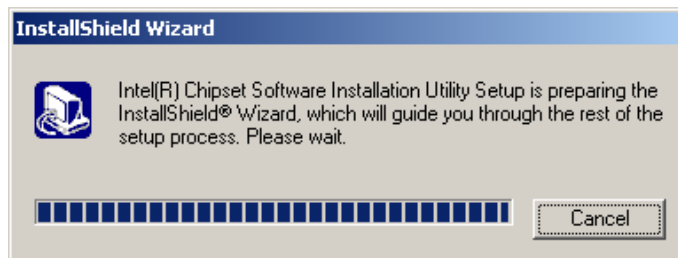

Figure 6-1: InstallShield Wizard Preparation Screen
Step 2: The “InstallShield Wizard Preparation Screen” in Figure 6-1 appears.